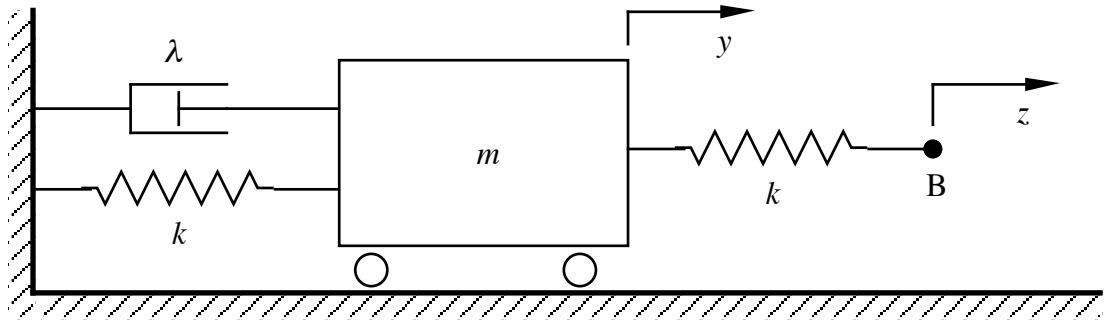

Fig. 2
5. Fig. 2 shows a mass m attached to a vertical wall by a spring of stiffness k and a dashpot of rate λ . The mass is attached to another spring of stiffness k to a point B which moves horizontally. The horizontal displacements of the mass and the point B from their equilibrium positions are denoted by y and z respectively. By considering the sum of forces acting on the mass, derive the equation of motion for the trolley. Show that it can be put into the form